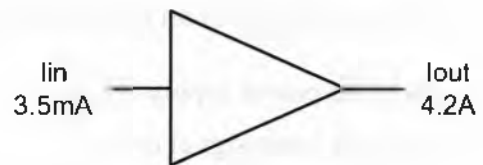

Figure 2
6. What is the current gain of the amplifier in Figure 2?